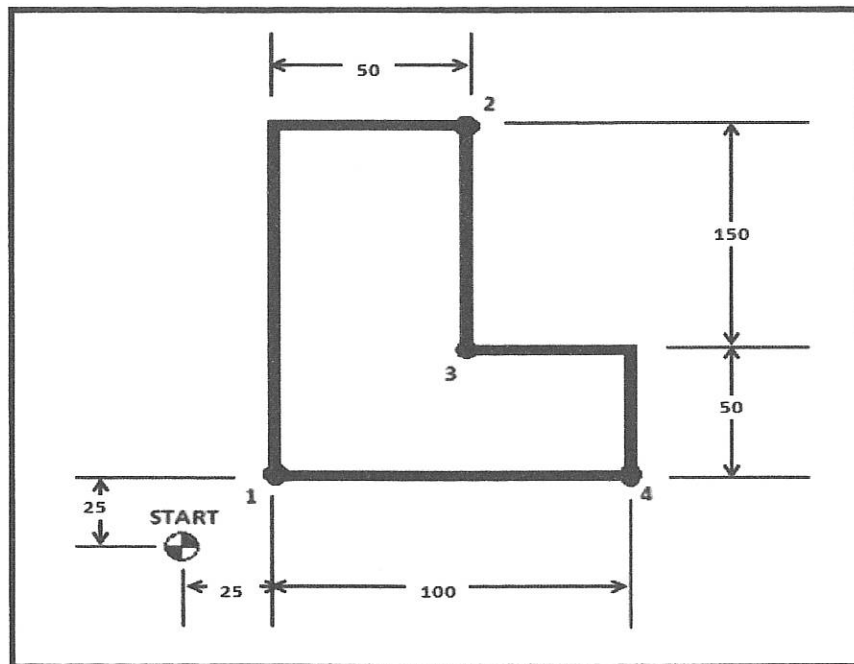

Figure 3c / *Gambarajah 3c*
- (c) Determine the X and Y coordinates for the point on the work object in **Figure 3c** below using: